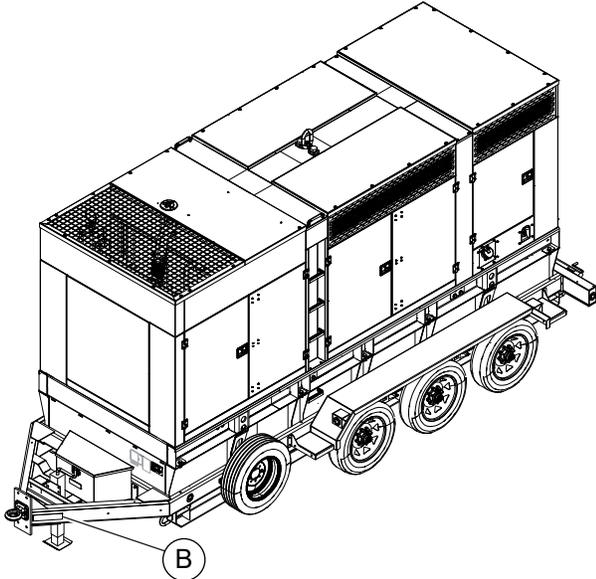

Figure 2-2. Unit ID and VIN Tag Locations
See **Figure 2-2** The unit ID tag is located on the control panel face. The vehicle identification number (VIN) tag (B) is located on the drivers side of the trailer tongue. Important information such as the unit model number, serial number, VIN, and tire loading information are listed on the tags. Record the information from the tags in the event the tags are lost or damaged. This information may be required when ordering parts or requesting assistance.